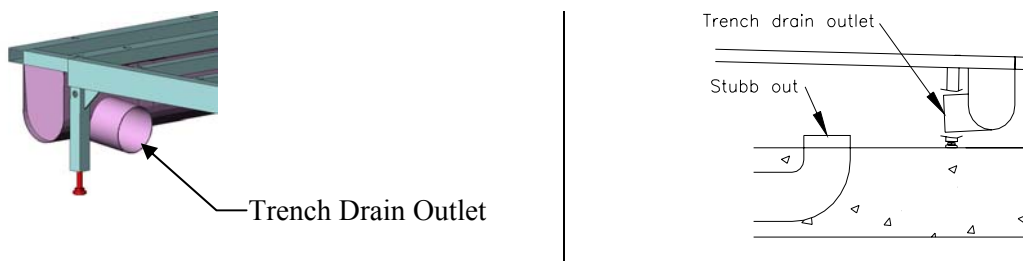

Figure 8
6. After installing the drains, move the floors into place (if applicable). Your plumber will make the final connection between the drain outlet and the sewer drain. **(Figure 8)**